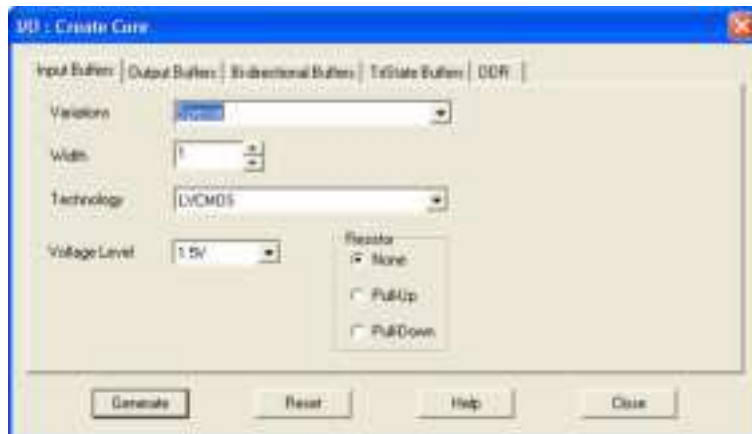

Figure 8-3 • I/O Create Core Window
3. Double-click I/O to open the Create Core window, which is shown in Figure 8-3.
As seen in Figure 8-3, there are five tabs to configure the I/O macro: Input Buffers, Output Buffers, Bidirectional Buffers, Tristate Buffers, and DDR.
The **Special** variation has Width, Technology, Voltage Level, and Resistor Pull-Up/-Down options (see Figure 8-3). All the I/O standards and supply voltages (V_{CC1}) supported for the device family are available for selection.